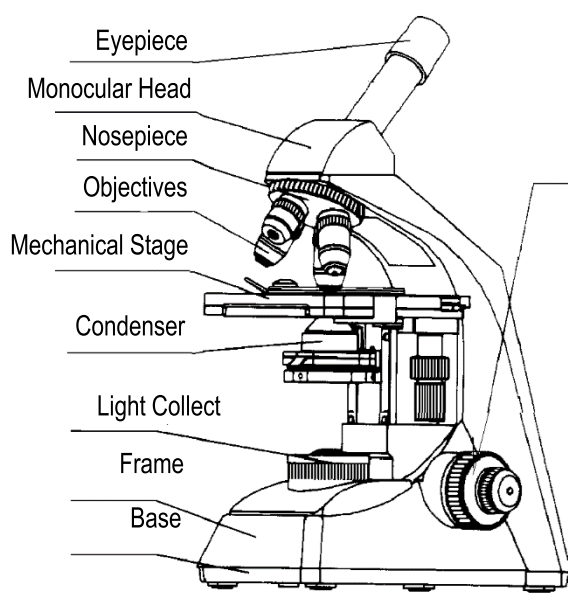
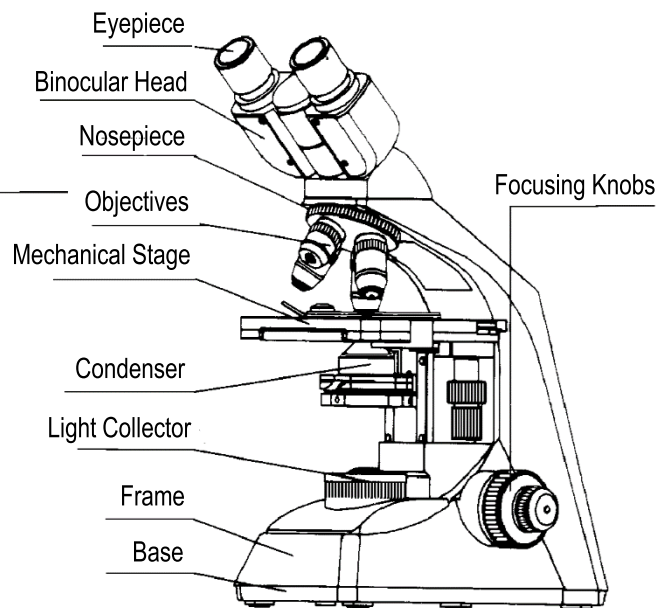
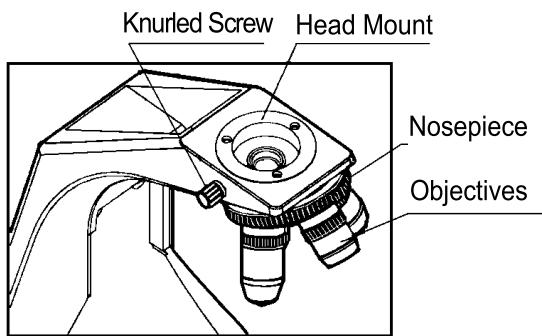

Fig.1 Shape of BS Microscope with Monocular Head, art. 10104
Fig.2 Shape of BS Microscope with Binocular Head, art. 10103
Fig.3 Installation of head
3.2 Then take out the binocular or monocular head (Fig.2 shows a binocular head, and Fig.1 is a monocular one), insert it into the hole of the head mount at the top of frame, then fix it with a knurled screw tightly, as Fig.3 illustrate. The head can rotate round 360 degrees freely after being installed.